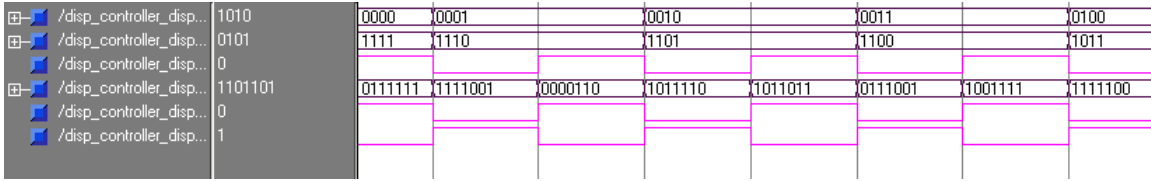

Figure 7; Display controller simulation
7. Simulate the project; Highlight the file `disp_controller_tb.vhd` under **Sources in Project** and double click **Simulate Behavioral VHDL model** under **Processes for current source** window. Make sure the simulation produces a waveform similar to figure 7.